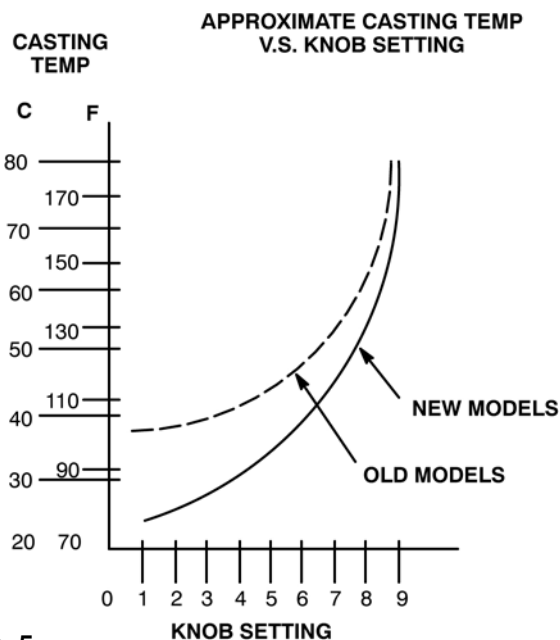

Fig. 5
2. Set the control knob (V) at 4 or 5 (trial setting) and let the heater warm up for about 10 minutes. See Fig. 5.